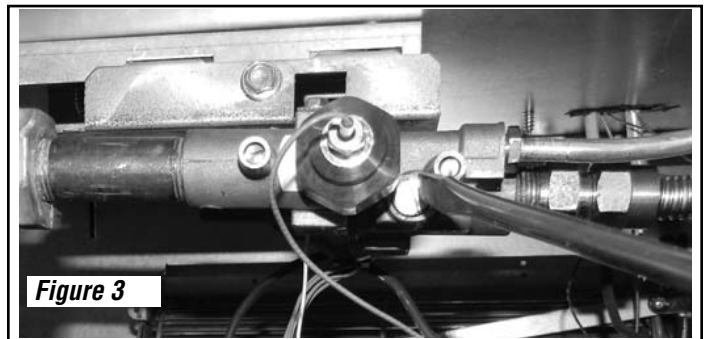

Figure 3
Step 3. Remove the low-rate orifice from the valve and replace with the low rate orifice supplied in kit. See *Figure 3*.